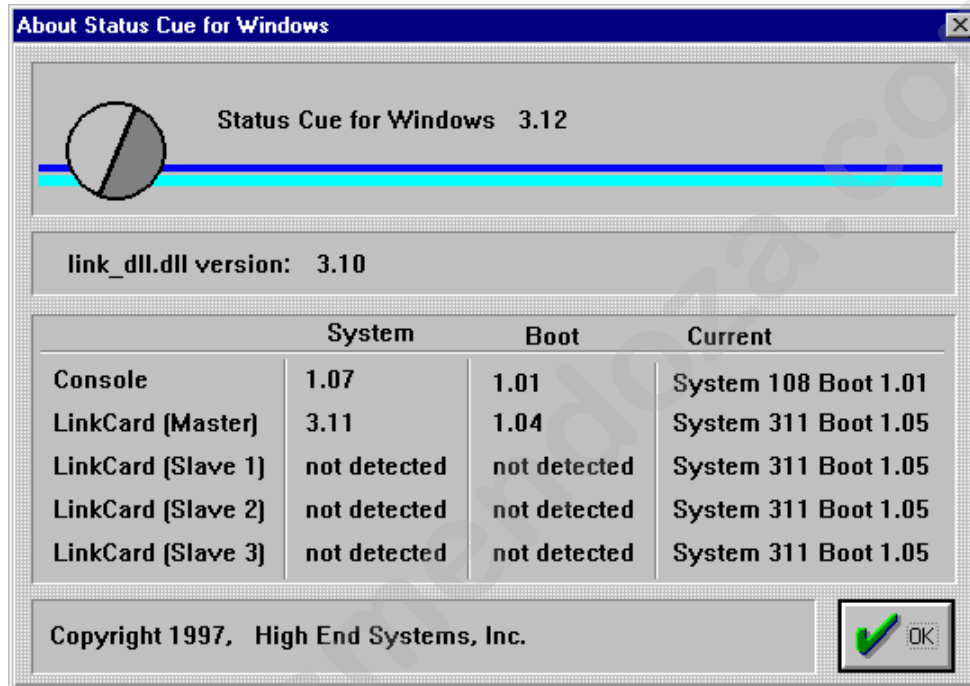

Figure A.1. About Status Cue for Windows Dialogue Box (Sample)
2. Select the **About...** from the **Help** drop-down menu. This brings up the **About Status Cue for Windows** dialogue box. Refer to Figure A.1.